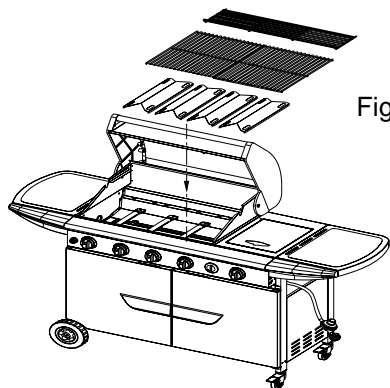

Figure 18
1. Evenly space cooking grids on the ledge above flame tamers. (Fig.18)
2. Place warming rack into the holes of the upper left and upper right of grill bowl side panels. (Fig.18)